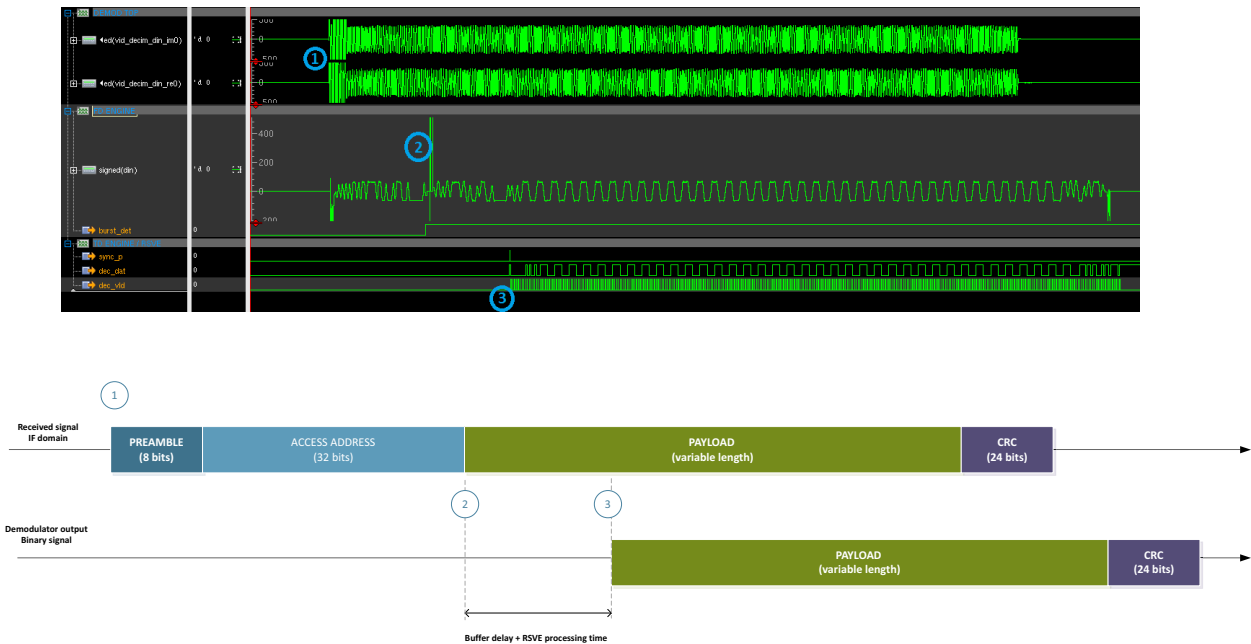

Fig 137. Demodulator operation
During the frame reception (see Figure 137: demodulator operation):
- Decoded data are sent to the link layer. Note that only frame payload and CRC bits are sent to the link layer (see Figure 137 “Demodulator operation”).